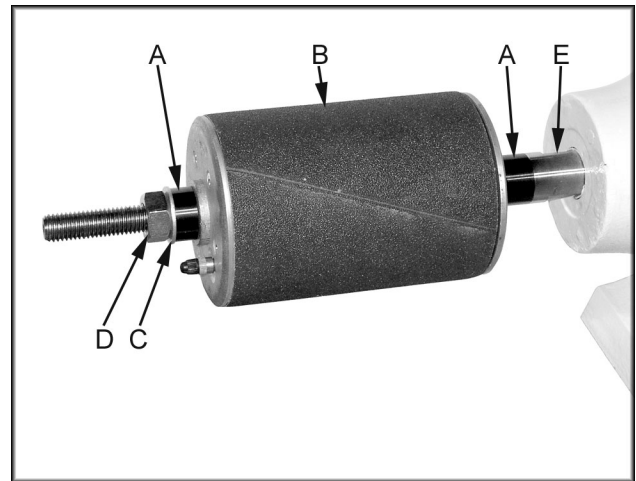

Fig. 1
2. Use the correct bushing (A, Fig. 1) combination to go along with the buffing, or sanding accessory (B, Fig. 1).
3. Secure bushing and buffing/sander assembly into place using the flat washer (C, Fig. 1) and hex nut (D, Fig. 1). **Note:** threads on the left end of shaft are for the hex nut with left hand threads. Threads on the right end of shaft are typical right hand threads.
4. There is a flat spot (E, Fig. 1) on the shaft to hold in place while tightening, or loosening the hex nut.